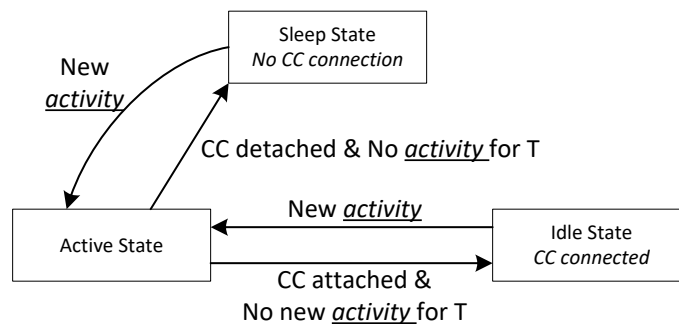

Figure 8-33. Flow Diagram for Power States
- (1) See Table 8-5 to see the exact meaning of I²C Address Index.
(2) See Table 8-2 for how to configure a given ADCINx decoded value.
The TPS25751 can operate in one of three different power states: Active, Idle, or Sleep. The Modern Standby mode is a special case of the Idle mode. The functionality available in each state is summarized in Table 8-7. The device automatically transitions between the three power states based on the circuits that are active and required. See Figure 8-33. In the Sleep state, the TPS25751 detects a Type-C connection. Transitioning between the Active mode to Idle mode requires a period of time (T) without any of the following activity: